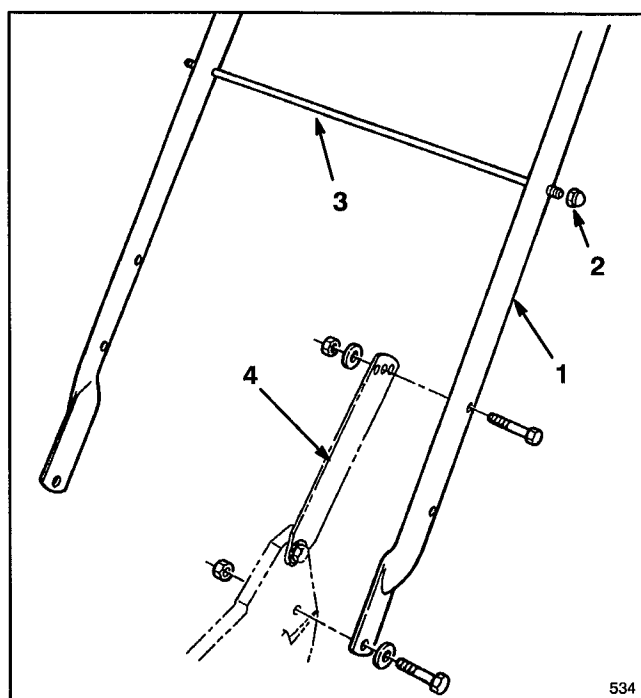

Figure 1
### INSTALL HANDLE (Fig. 1)
2. Secure handle latches to handle with (2) 5/16-18 x 1-1/2" lg. capscrews, washers and nylon insert locknuts. Position locknuts and washers on inside of handle.
3. Slide bag support rod thru **top** mounting holes in handle and secure each end with a cap locknut (Fig. 1).